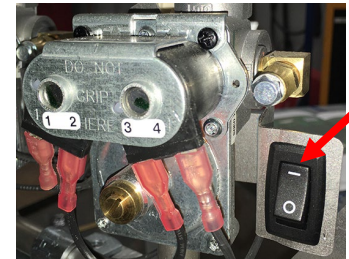

Figure 2
2. Turn the gas valve to the ON position (see Figure 2).